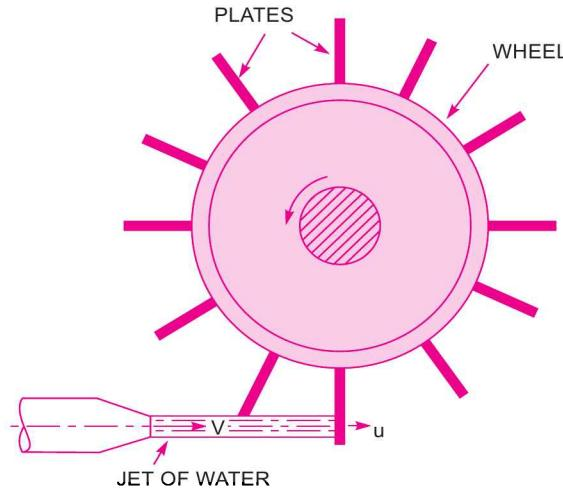

Fig. 17.22 Jet striking a series of vanes.
17.4.5 Force Exerted by a Jet of Water on a Series of Vanes. The force exerted by a jet of water on a *single* moving plate (which may be flat or curved) is not practically feasible. This case is only a theoretical one. In actual practice, a large number of plates are mounted on the circumference of a wheel at a fixed distance apart as shown in Fig. 17.22. The jet strikes a plate and due to the force exerted by the jet on the plate, the wheel starts moving and the 2nd plate mounted on the wheel appears before the jet, which again exerts the force on the 2nd plate. Thus each plate appears successively before the jet and the jet exerts force on each plate. The wheel starts moving at a constant speed.